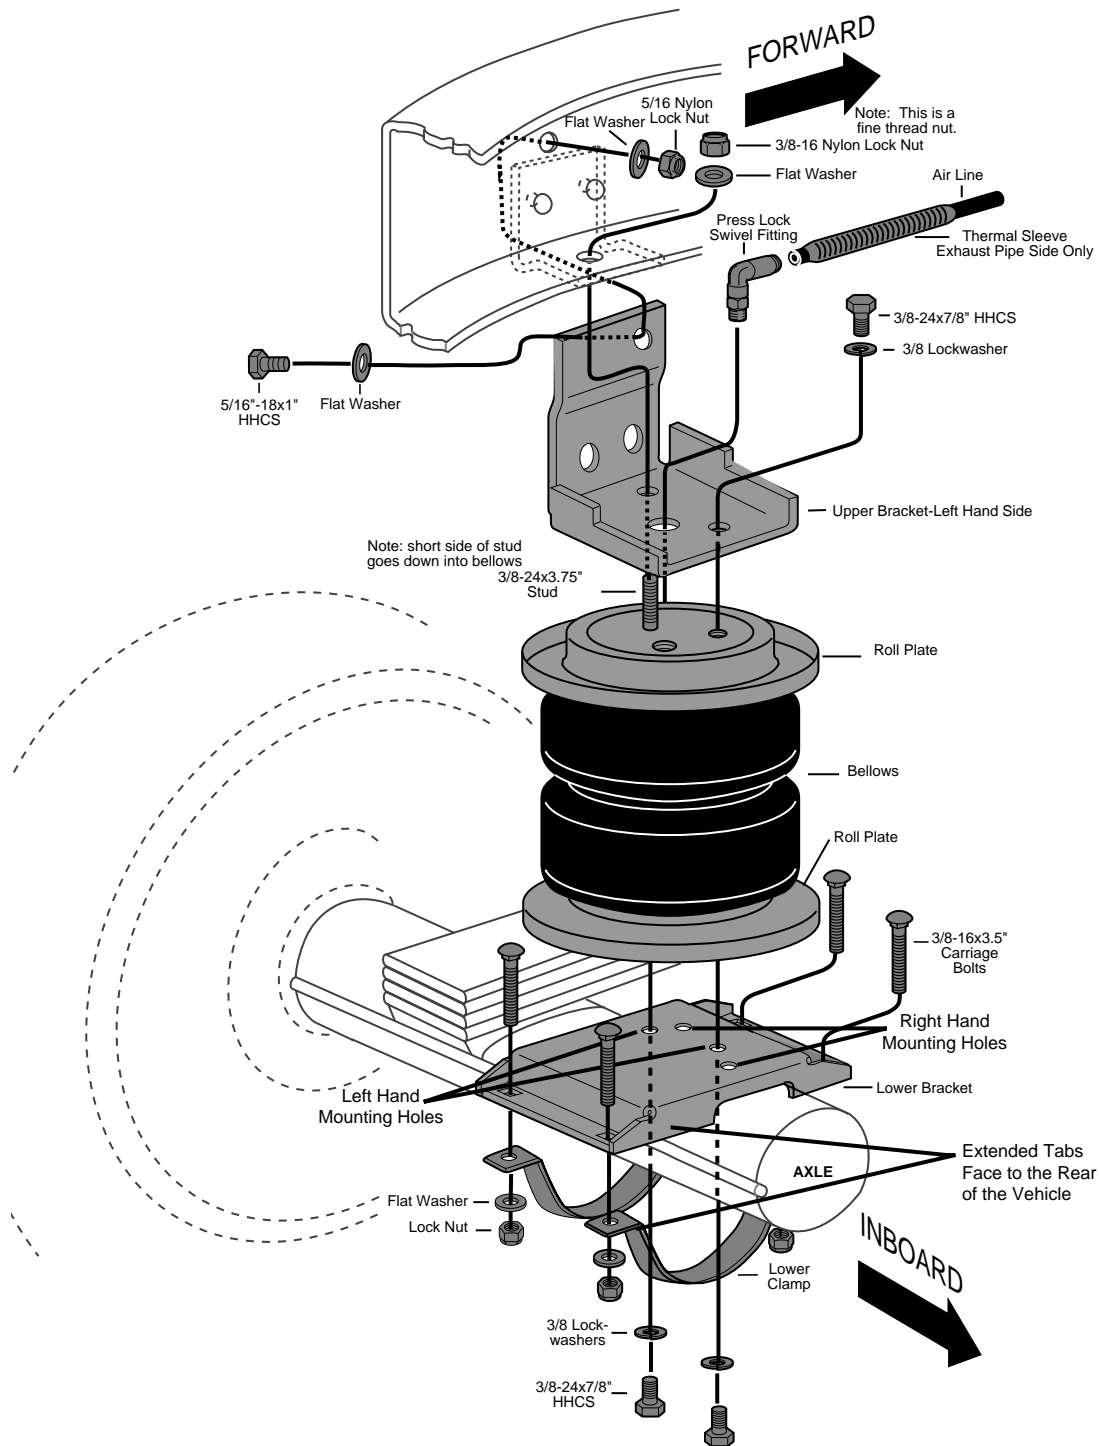
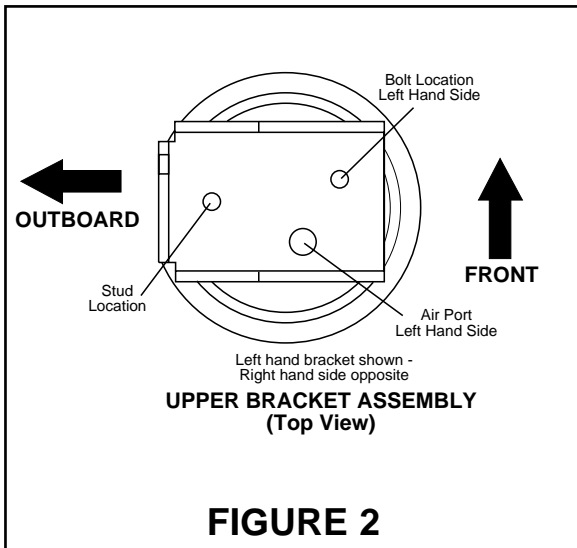

FIGURE 1 LEFT SIDE UNIT
FIGURE 2
3. Assemble upper section of left hand unit (NOTE - Upper brackets are stamped “R” and “L”). Set roll plate on bellows. Slip the upper bracket over the air fitting and line up the mounting holes (Figure 2). Install the 3/8-24x3.75” stud in the outboard tapped hole (use the short threaded end of the stud on the bellows side, refer to Figure 1) and turn in carefully until it bottoms out in the tapped hole. Install the 3/8” lockwashers and 3/8-24x7/8” hex head cap screw (HHCS) a couple of turns to loosely assemble for installation. Assemble right hand unit also.
4. Set roll plate on bottom of bellows. Attach lower bracket to bottom of bellows on both units using the holes as shown (Figure 1). The extended tabs should face rearward. Use the 3/8” lockwashers and 3/8-24x7/8” HHCS torque to 15-20 ft.-lbs. Be sure that lower bracket and upper bracket are parallel to each other as shown in Figure 2.
6. Set the air spring assembly on the axle inboard of leaf spring (Figure 3). Squeeze the bellows down and align the stud with the original jounce bumper mounting hole. Insert the stud through the hole and fasten with flat washer and 3/8-16 lock nut. Fasten the side of the bracket to the frame rail as shown in figures 1 and 3, using 5/16-18x1” HHCS bolt, flat washers and 5/16” lock nut. Torque all three fasteners to 15 ft. lbs.
B. Run the air line from the inflation valve to the bellows, routing it so that it will be protected from the direct heat from the muffler or tailpipe and kept away from sharp edges. **Slide the thermal sleeve protector onto the air line on the exhaust pipe side.** The air line should not be bent or curved sharply. Cut off excess air line. Push cut end of air line into the air fitting as far as it will go. This is a self locking fitting on the air line. You will hear or feel a definite "click." Secure the air line in place with the nylon ties provided (Figure 1).